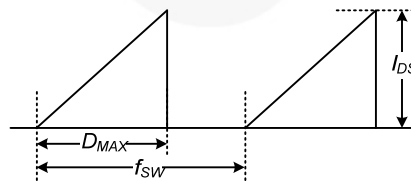

Figure 4. Repetitive Peak Switching Current
- Repetitive peak switching current when the inductive load is assumed: Limited by maximum duty ( $D_{MAX}=0.83$ ) and junction temperature (see Figure 4).